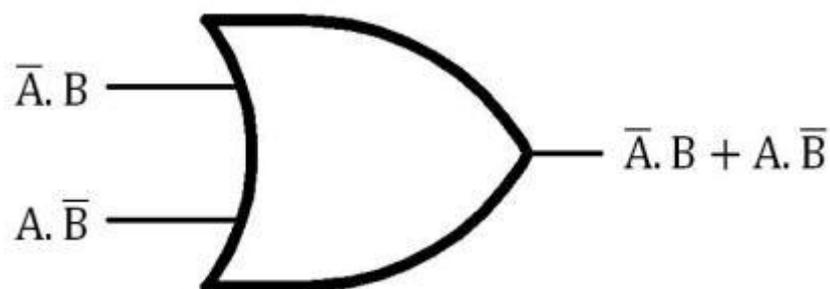

Figure 138 OR gate with inputs in Boolean notation
2. This means that we need an OR gate to give us the output Q. So, here is the OR gate with its inputs (Figure 138):